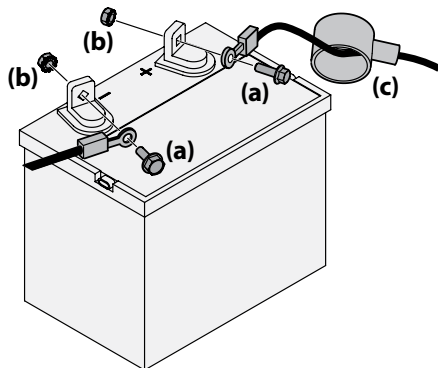

Figure 2-18
1. Remove the plastic cover, if present, from the positive battery terminal and attach the red cable to the positive battery terminal (+) with the bolt (a) and hex nut (b). See Figure 2-18.
3. Remove the plastic cover, if present, from the negative battery terminal and attach the black cable to the negative battery terminal (-) with the bolt (a) and hex nut (b). See Figure 2-18.